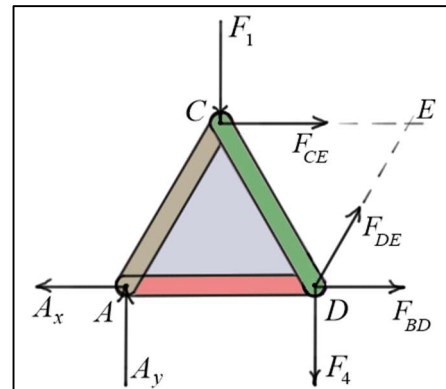

Fig. 5 Free Body Diagram of Section ACD
- An important part of this strategy is to **identify sections** of the truss that have only **three unknown forces** acting on them. To find such a section it may be necessary to first find the external support forces. In the section shown in Fig. 5, if the external support forces A_x and A_y are known, only three unknown member forces remain on that section.